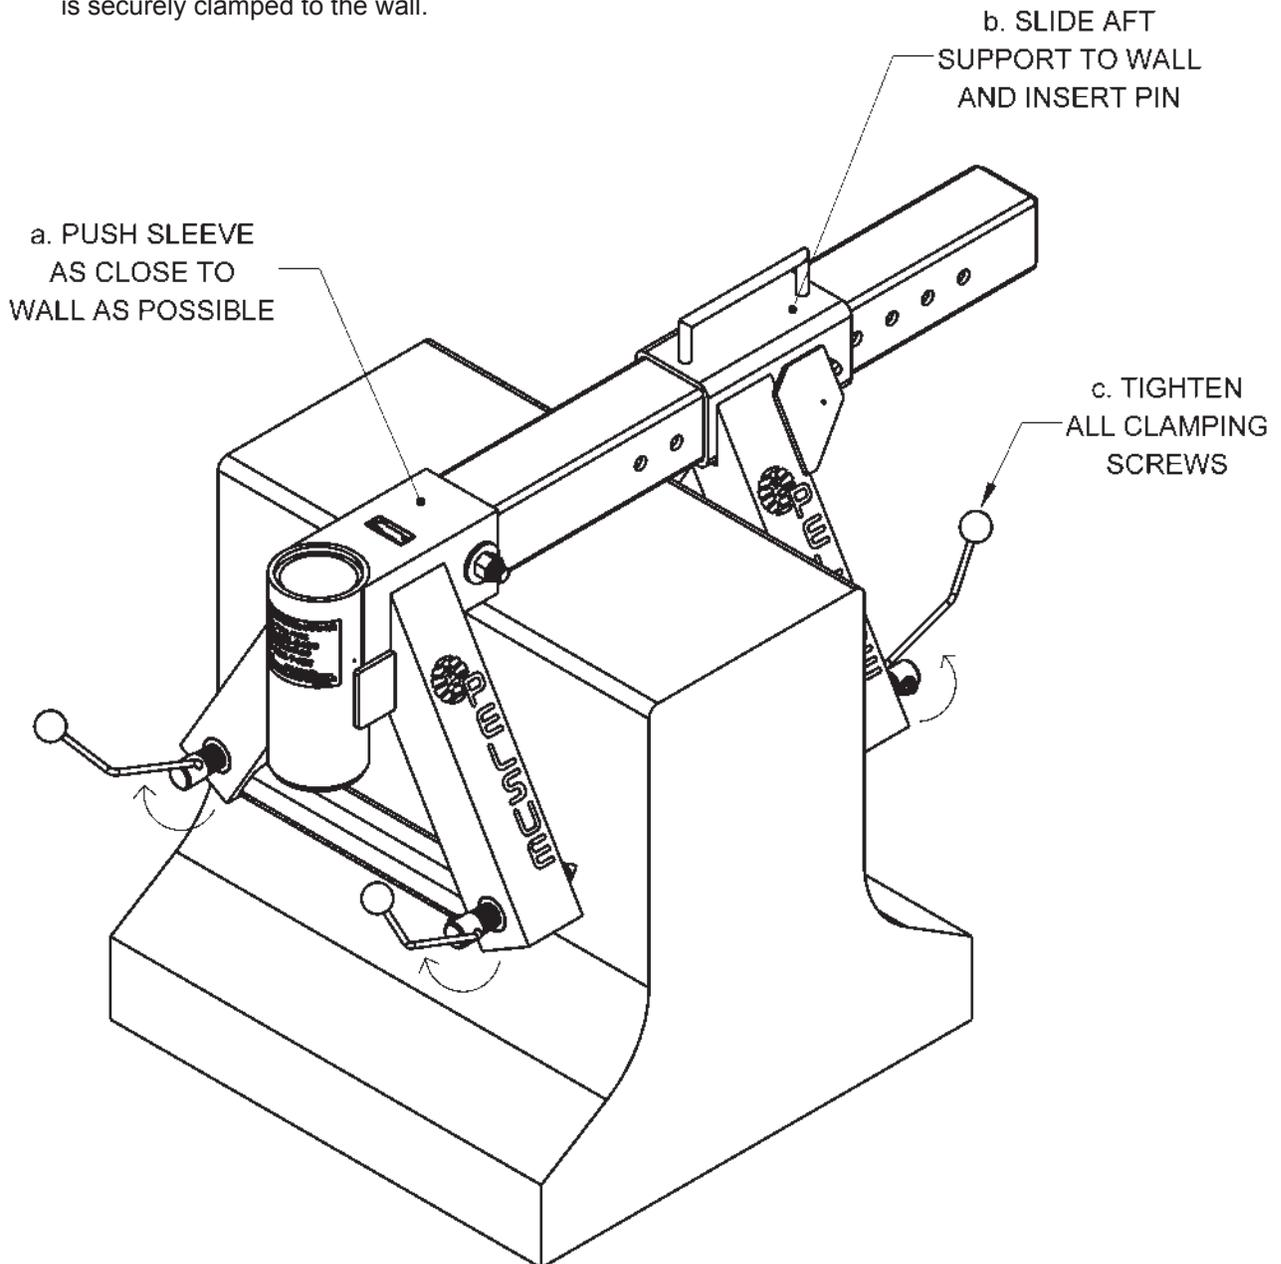

Figure 5c: #DSR-ADJ
- 3.** The next installation step is to secure the device to the wall. Follow the proceeding steps, and refer to Figure 5c.